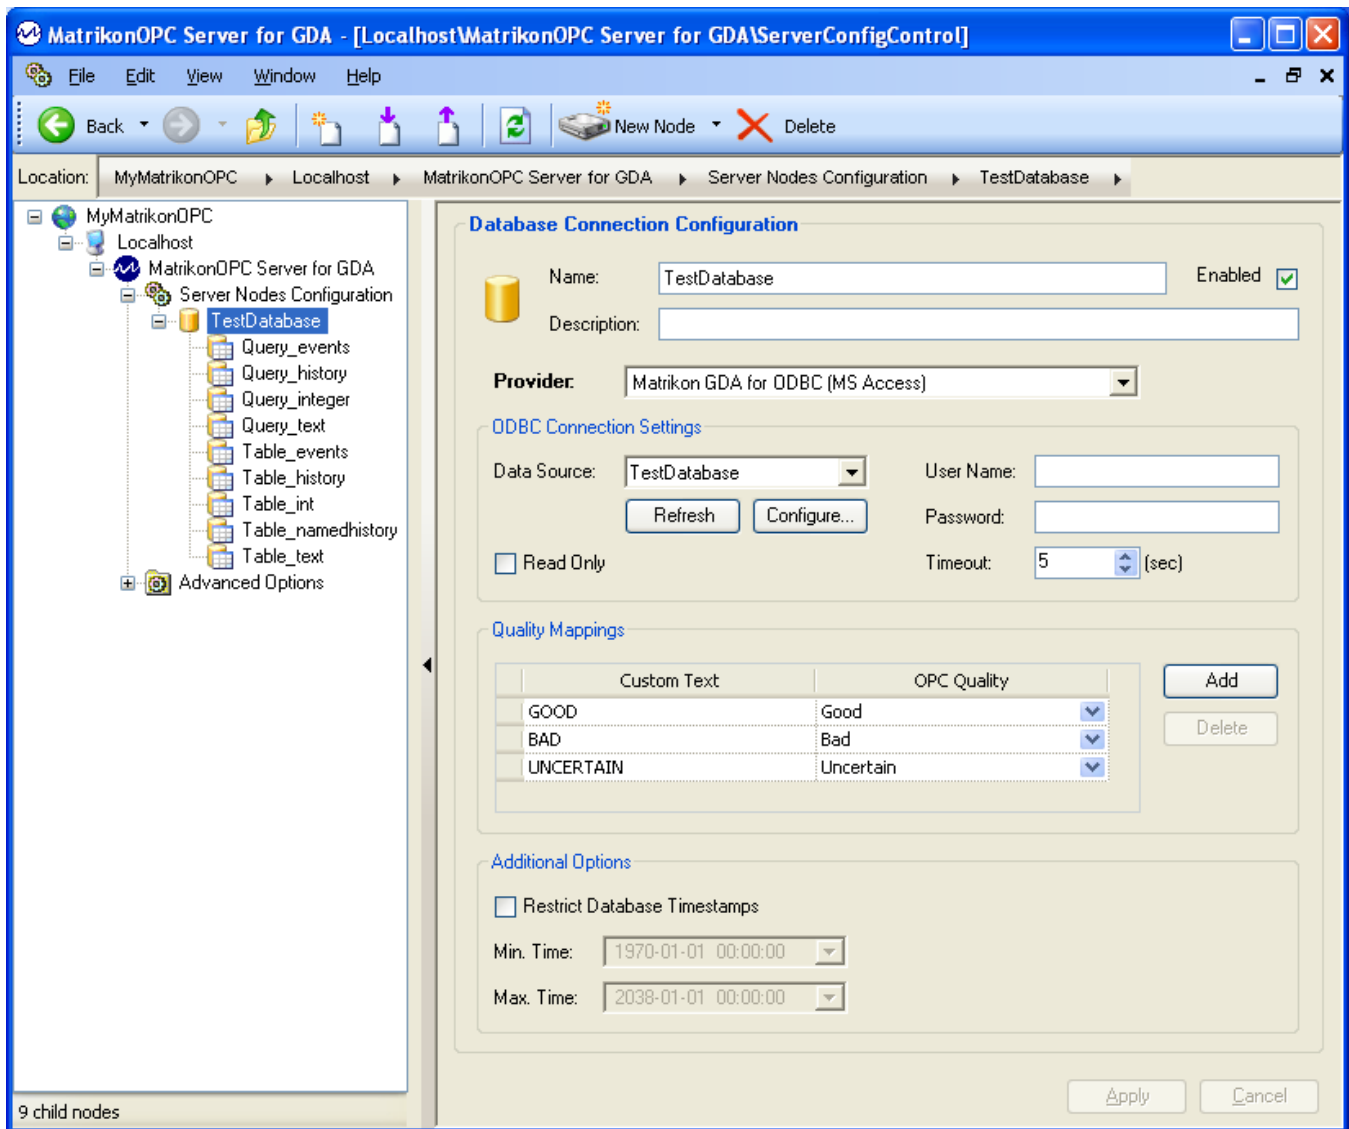

Figure 101 - Sample Configuration File Loaded
9. The **.XML** file is loaded, the configuration screen should appear as it does in Figure 101 - Sample Configuration File LoadedFigure 100.